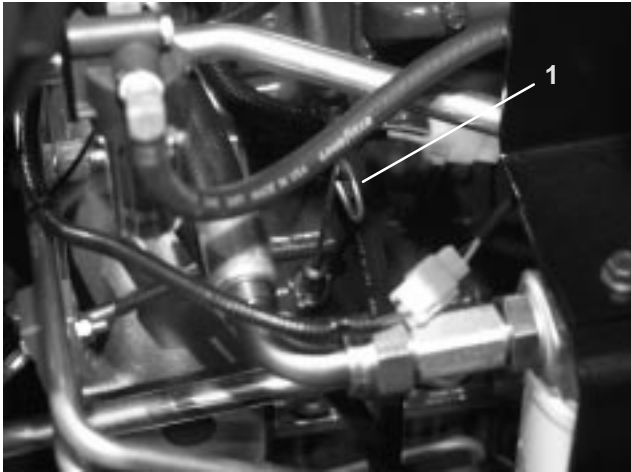

Figure 13
2. Remove dipstick (Fig. 13), wipe clean and reinstall dipstick. Pull it out again and check oil level on dipstick: Oil level should be up to FULL mark on dipstick.